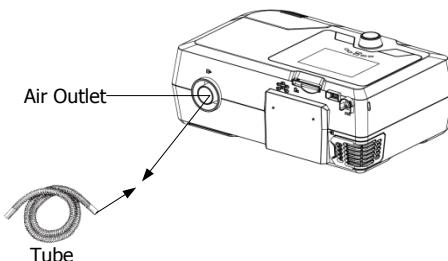

Fig. 11-6
(1) Connect one end of the tube to the air outlet of the main device, as shown in Fig. 11-6.